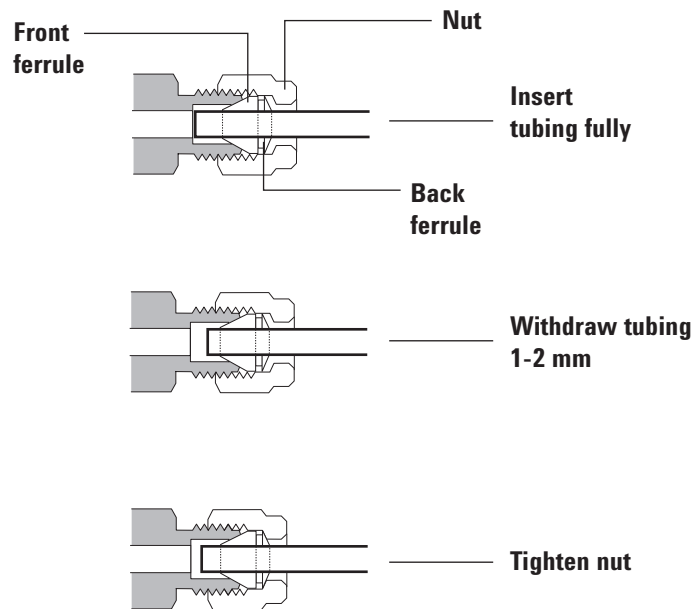

Figure 15. Insert the tubing
- 4 Push the tube fully into the plug, then withdraw it approximately 1 to 2 mm. See **Figure 15**.